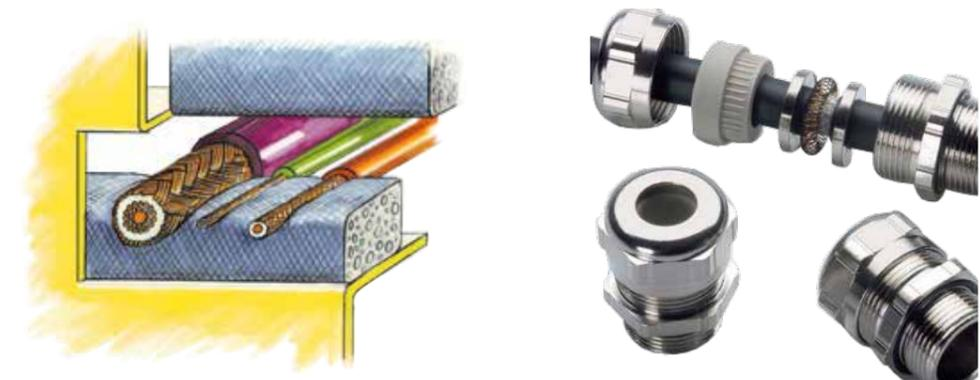

Figure 10 : Wires penetrates a shield
- 10** **When a wire penetrates a shield** that is not completely connected to the shield, it will work as an antenna and this reduce the shielding performance of the cage. This is especially the case at higher frequencies. (Fig. 10)